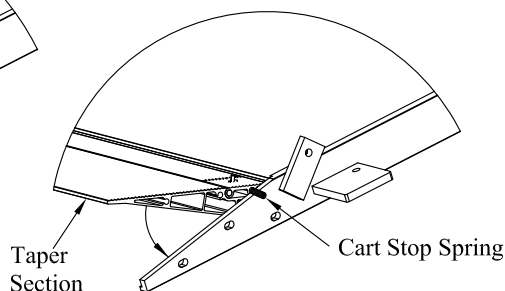

Figure 6: Cart stop spring location.
3. **Insert** the cart stop springs into the ends of the taper section (Figure 6).
4. **Rotate** the taper section down while **holding** the cart stop springs compressed in the ends of the taper section (Figure 6).